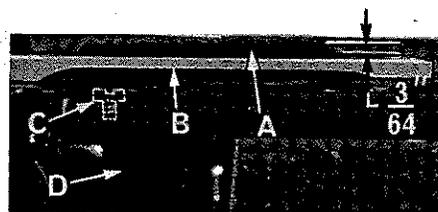

Fig. 8
Set the feed dog (A, Fig. 8) in the throat plate (B) so there is equal clearance on all sides. See that the tips of the teeth extend the depth of a tooth or approximately  $3/64$  inch above the throat plate and are parallel with the throat plate at high point of travel. Adjust the supporting screw (C), under the feed dog, to maintain this setting. Screw (D) is used to hold feed dog in position.